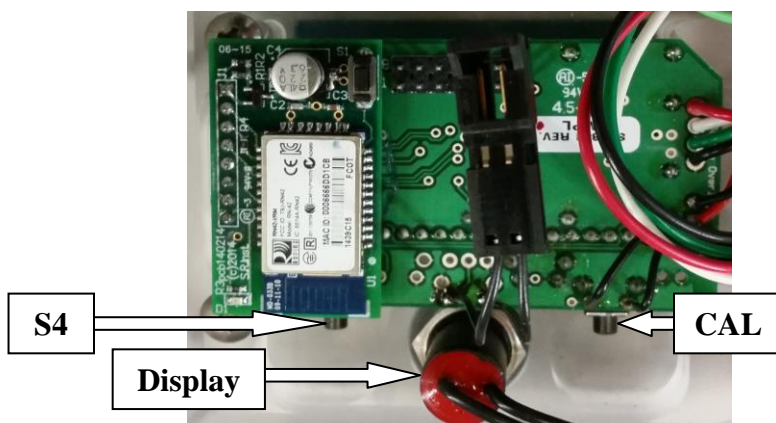

Figure 5: Calibration Buttons
STEP 4: Press the calibration button (Figure 5). The display will read “CAL”.
STEP 5: Press button “S4” (Figure 5) to scroll through menu options until “FULL” is displayed. Press the **DISPLAY** button.